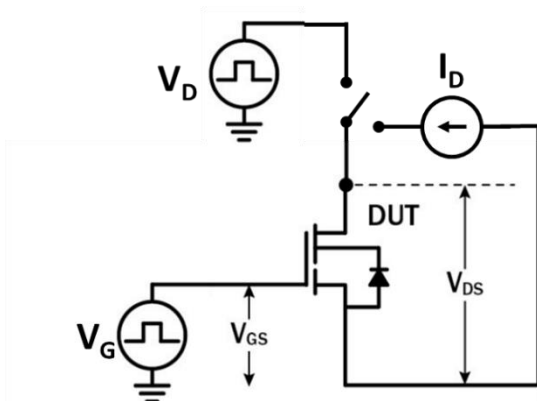

Figure 18. Dynamic  $R_{DS(on)eff}$  Test Circuit
- a. Dynamic  $R_{DS(on)}$  value; see Figures 18 and 19 for conditions